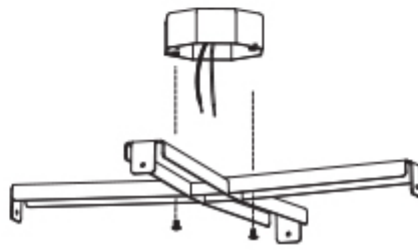

Figure 5
6. Using the provided mounting screws, screw the cross-bracket to the electrical box through two of the slots in the cross-bracket. Tighten the screws enough to pull the ends of the cross-bracket tight against the ceiling. (Figure 5)